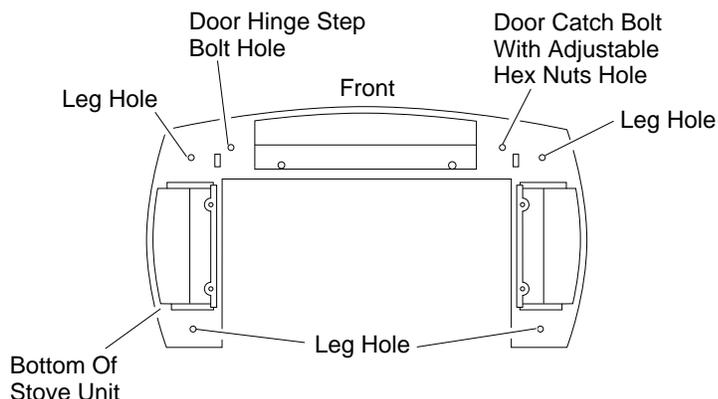
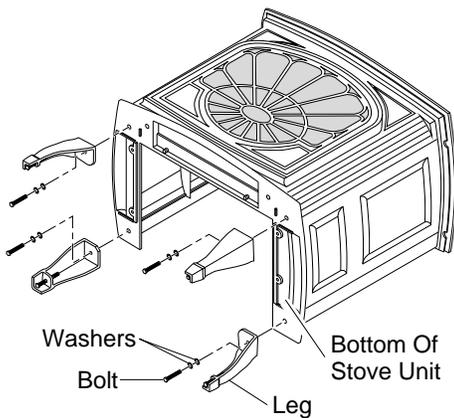
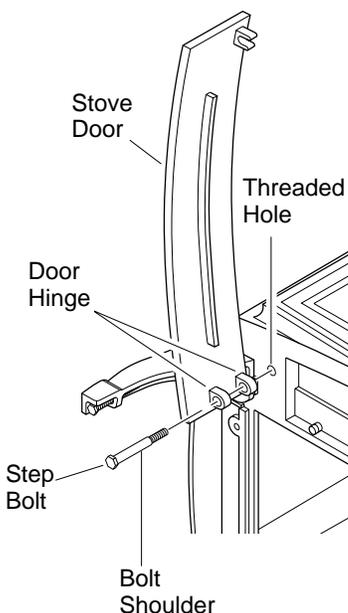
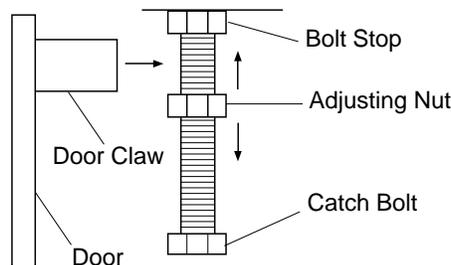

Figure 9 - Locating Threaded Holes for Legs and Door Attachment
Figure 10 - Attaching Stove Legs
Figure 11 - Attaching Stove Door
Figure 12 - Catch Bolt and Door Claw Orientation
8. Fasten each leg to stove with four (4) M8 x 1.25 - 20mm bolts. Use a flat washer and lock washer with each bolt. Tighten bolts into threaded holes on stove body (see Figure 9 and Figure 10 on page 6). Use an adjustable wrench or a 12mm socket.
9. Attach stove door by inserting step bolt through door hinge pivot hole and into threaded hole in stove body (see Figure 11 and Figure 9 on page 5). Use an adjustable wrench or a 12mm socket to fasten step bolt. Tighten step bolt until snug. Make sure door moves freely.
10. Install door catch bolt (M8 x 1.25-55mm with two M8 hex nuts) into threaded hole on stove body (see Figure 9, page 5). Use an adjustable wrench or a 12mm socket. The catch bolt has two hex nuts attached to it (see Figure 12). The top nut is a bolt stop and the bottom nut is for door leveling adjustment.
11. Check general catch bolt alignment with door claw. Make final adjustment and door leveling after stove is in normal standing position (see Figure 12).